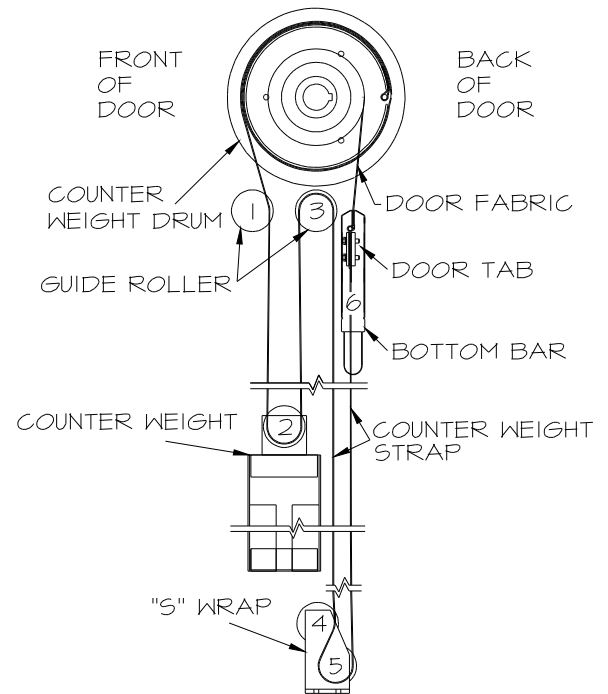

FIG. 11A
- **Thread Counterweight Strap** as follows (Figure 11a):